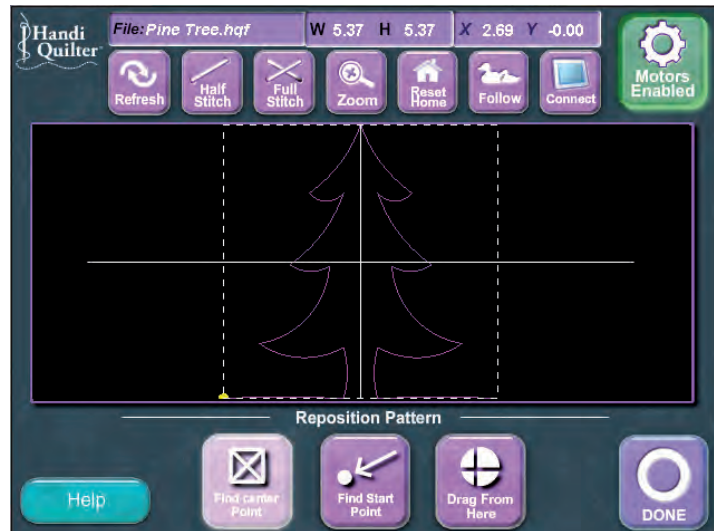

Figure 31
From the “Quilt” menu screen, select the “Reposition Pattern” button. This will bring up the “Reposition Pattern” screen (Figure 31).
1. The “Find Center Point” button will position the pattern so that the center of the pattern is aligned with the current needle position. If there is a point on the quilt that should be the center of the pattern, simply move the quilting machine so the needle is at that center point and press the “Find Center Point” button on the screen (Figure 31).